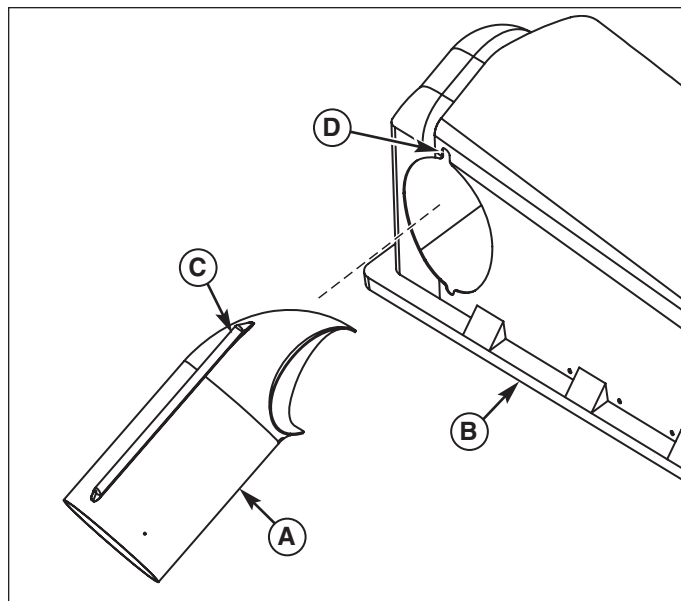

Figure 15. Install Upper Tube to Cover
1. Slide the upper tube (A, Figure 15) into cover (B) aligning ridge (C) with cutout (D) as shown.